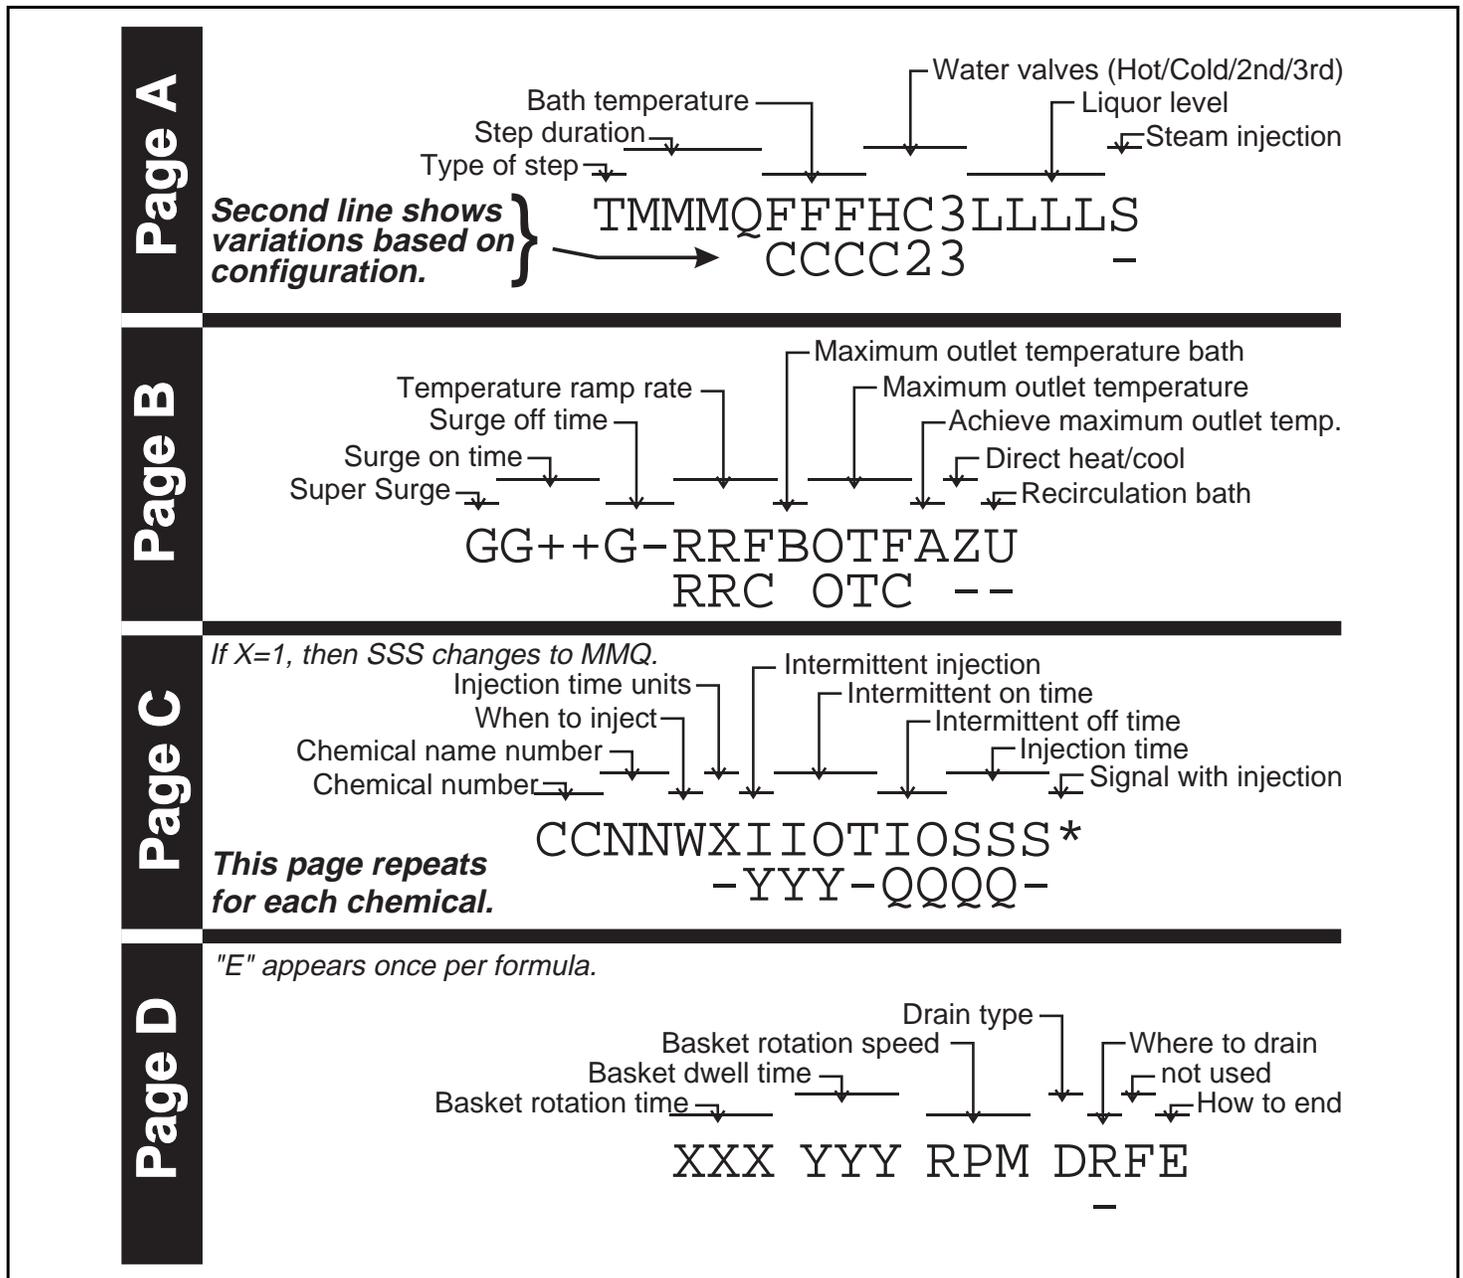

FIGURE 1 (MSOP0D10CE)
Several programming decisions on *pages A, B, C, and D* vary with configuration, as shown in FIGURE 1. For example, *bath temperature* may be configured for Fahrenheit (*FFF*) or Celsius (*CCC*) units, and *Third Water (3)* only appears if enabled. Additionally, certain programming decisions are affected by prior decisions. Most decisions following *Type of Step (T)* only apply to bath steps, not extract steps. Applicable step decisions repeat for each step. **Up to 200 formulas with a total of 4000 steps may be programmed. However, no formula may contain more than 62 steps.**